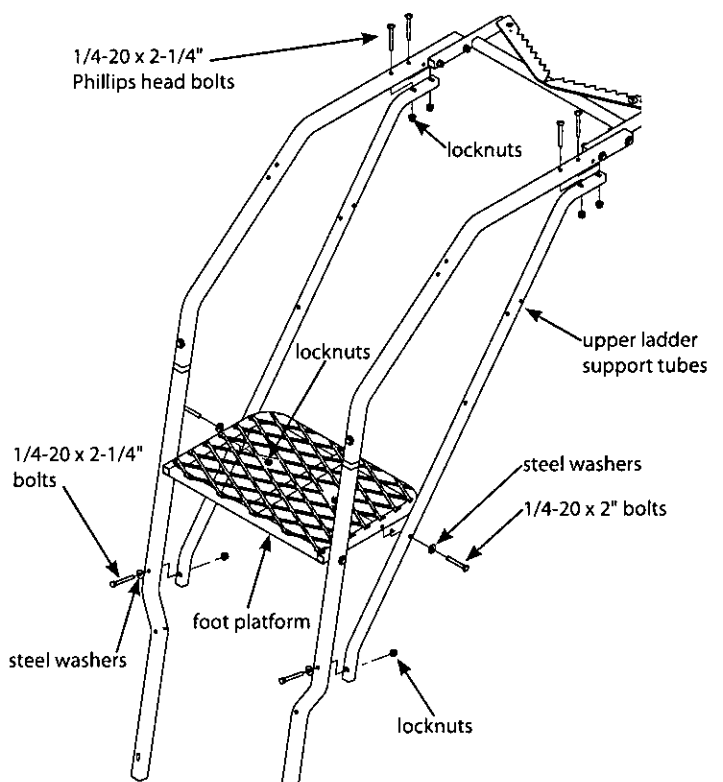

Figure 3
- a. Attach the 2-hole (slot) end of upper ladder support tubes (10336) to the bottom side of main side rails using (4) provided 1/4-20 x 2-1/4" Phillips head bolts and locknuts. **SEE FIGURE 3.**
- b. Attach the 1-hole (slot) end of upper ladder support tubes to the backside of flared rails using (2) provided 1/4-20 x 2-1/4" bolts, washers and locknuts. **SEE FIGURE 3.**
- c. Attach the foot platform to the upper ladder support tubes using (2) provided 1/4-20 x 2" bolts, locknuts and steel washers. **SEE FIGURE 3.**